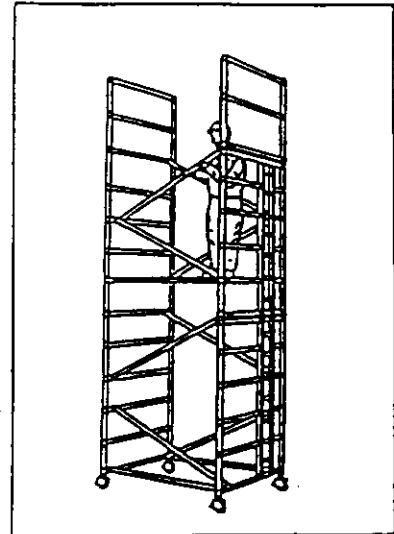

Fig.16
- a. Raise the Platform up three rungs so that it fits into place on the second rung of the upper two End Frames (Figure 16)